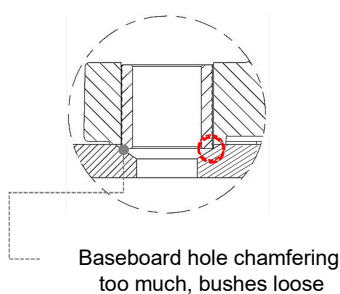

Fig1
10. Relay installation baseboard hole can't be chamfered too much, recommend $\text{Ø}6.5\text{mm}$, otherwise relay shell bushes will loose, please refer to figure 1: